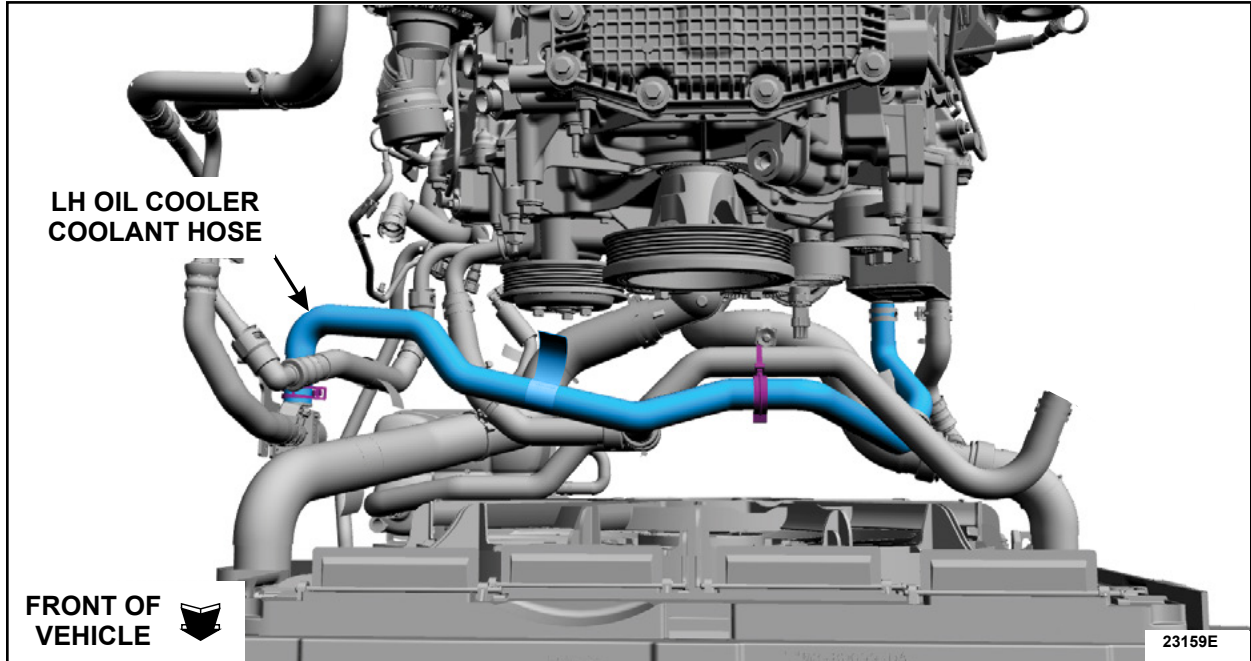

FIGURE 7
12. Replace the LH oil cooler coolant hose routing the oil cooler end of the hose over top of the CAC tube. See Figures 7 and 8.